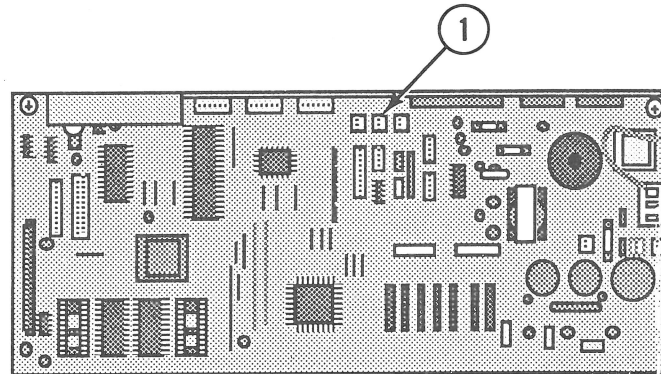

FIGURE 4
2. Disconnect the paper-handling change switch cable from main board connector CN18 (Figure 4, #1).